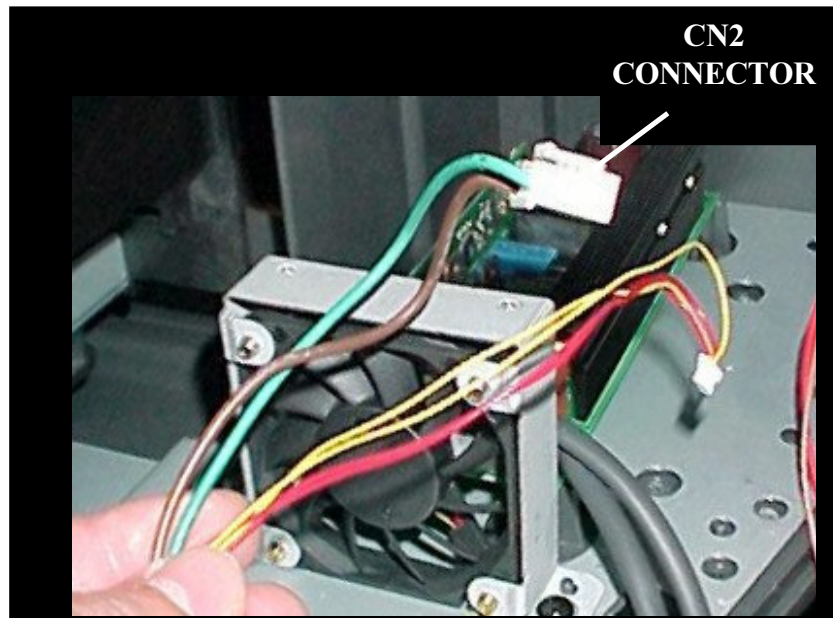

Figure 5-2: Measuring Ballast Supply
- 1) Unplug the CN2 connector on the Lamp ballast, refer to *Figure 5-2*.